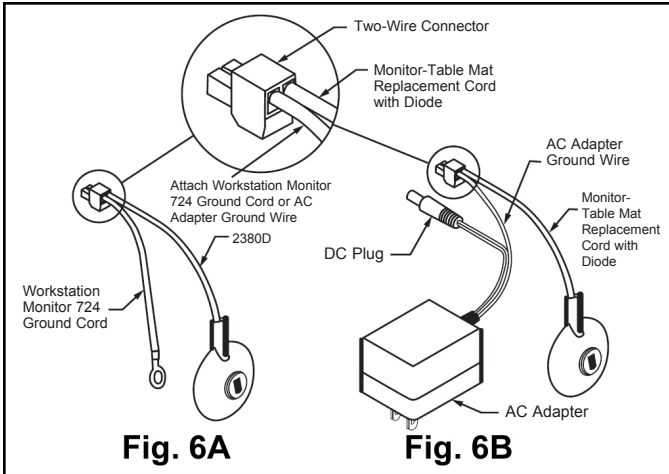

Figure 6A & 6B. Attaching ground wire/cord and worksurface cord to two-wire connector.
- Attach the SCS Monitor/Table Mat Cord 2380D (tinned wire end) to the work surface terminal of the two-wire connector by inserting it into opening and securing with the screwdriver (Figure 6A or 6B). Attach the plastic cap end to the snap on the work surface.
- c) Attach the Monitor/Table Mat Cord 2380D (tinned wire end) to the work surface terminal of the two-wire connector plug by inserting into opening and securing with screwdriver (Figure 6A or 6B).
- g) Attach the tinned Workstation Monitor ground wire to the ground terminal of the two-wire connector by inserting the tinned end into opening and securing with screwdriver (Figure 6A). Attach the ring terminal end with a screw (not supplied) to an electrical ground (Figure 8B). Continue with Step (h).